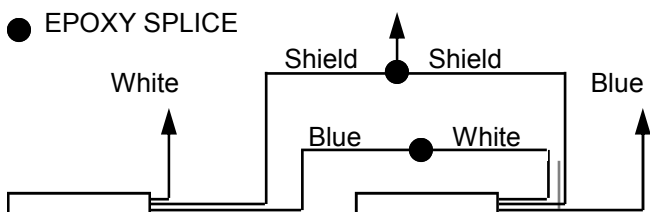

Figure 3-Extending Sensor Range
3. If the driveway is a two-car driveway, two sensors wired in series may be necessary for complete coverage; see Figure 3.
total length of 5,000 feet can be supported by one processor), connect them as shown in Figure 3.
4. Set the "GAIN" control fully counter-clockwise to minimum gain. Drive past the sensor(s) at the slowest probable vehicle speed. Gradually increase sensitivity ("GAIN") until the sensor(s) consistently detects vehicle movement as indicated by relay closure. Be sure the detection range extends to the furthest edge of the desired protected area. **Do not use more sensitivity than is necessary to ensure reliable vehicle detection.** If the detection area is too small, enlarge it by adding one or more sensors in series (see Figure 3). If the detection area is too large, move the sensor(s) farther from the vehicle path.